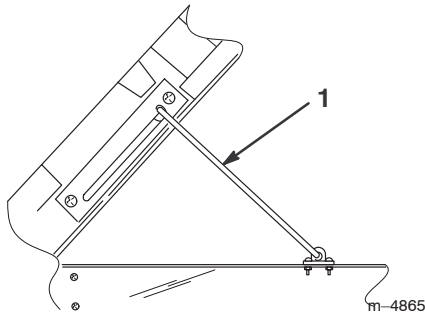

Figure 20
- Raise the bed to its full height; then lower it slightly to engage the prop rod (Fig. 20).